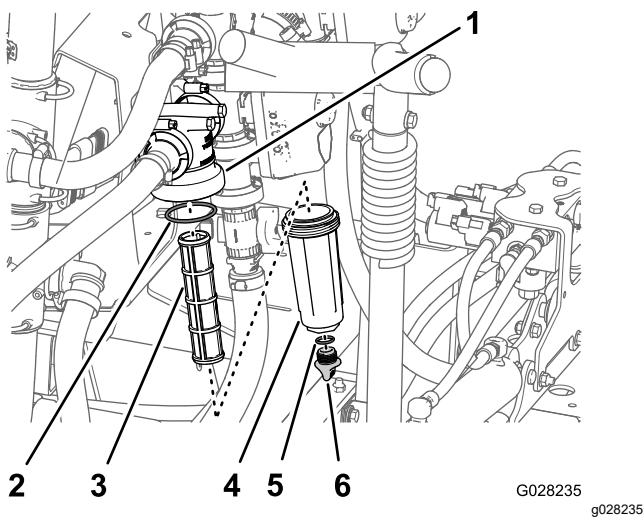

Figure 147
2. Align a drain pan under the pressure filter (Figure 147).
3. Rotate the drain plug counterclockwise and remove it from the bowl of the pressure filter (Figure 147).
4. Rotate the bowl counterclockwise and remove it from its filter head (Figure 147).
5. Remove the old pressure-filter element (Figure 147).
6. Check the O-ring for the drain plug (located inside the bowl) and the O-ring for the bowl (located inside the filter head) for damage and wear (Figure 147).
7. Install the new pressure-filter element into the filter head (Figure 147).
8. Install the bowl onto the filter head and tighten by hand (Figure 147).
9. Install the plug into the bowl and tighten by hand (Figure 147).